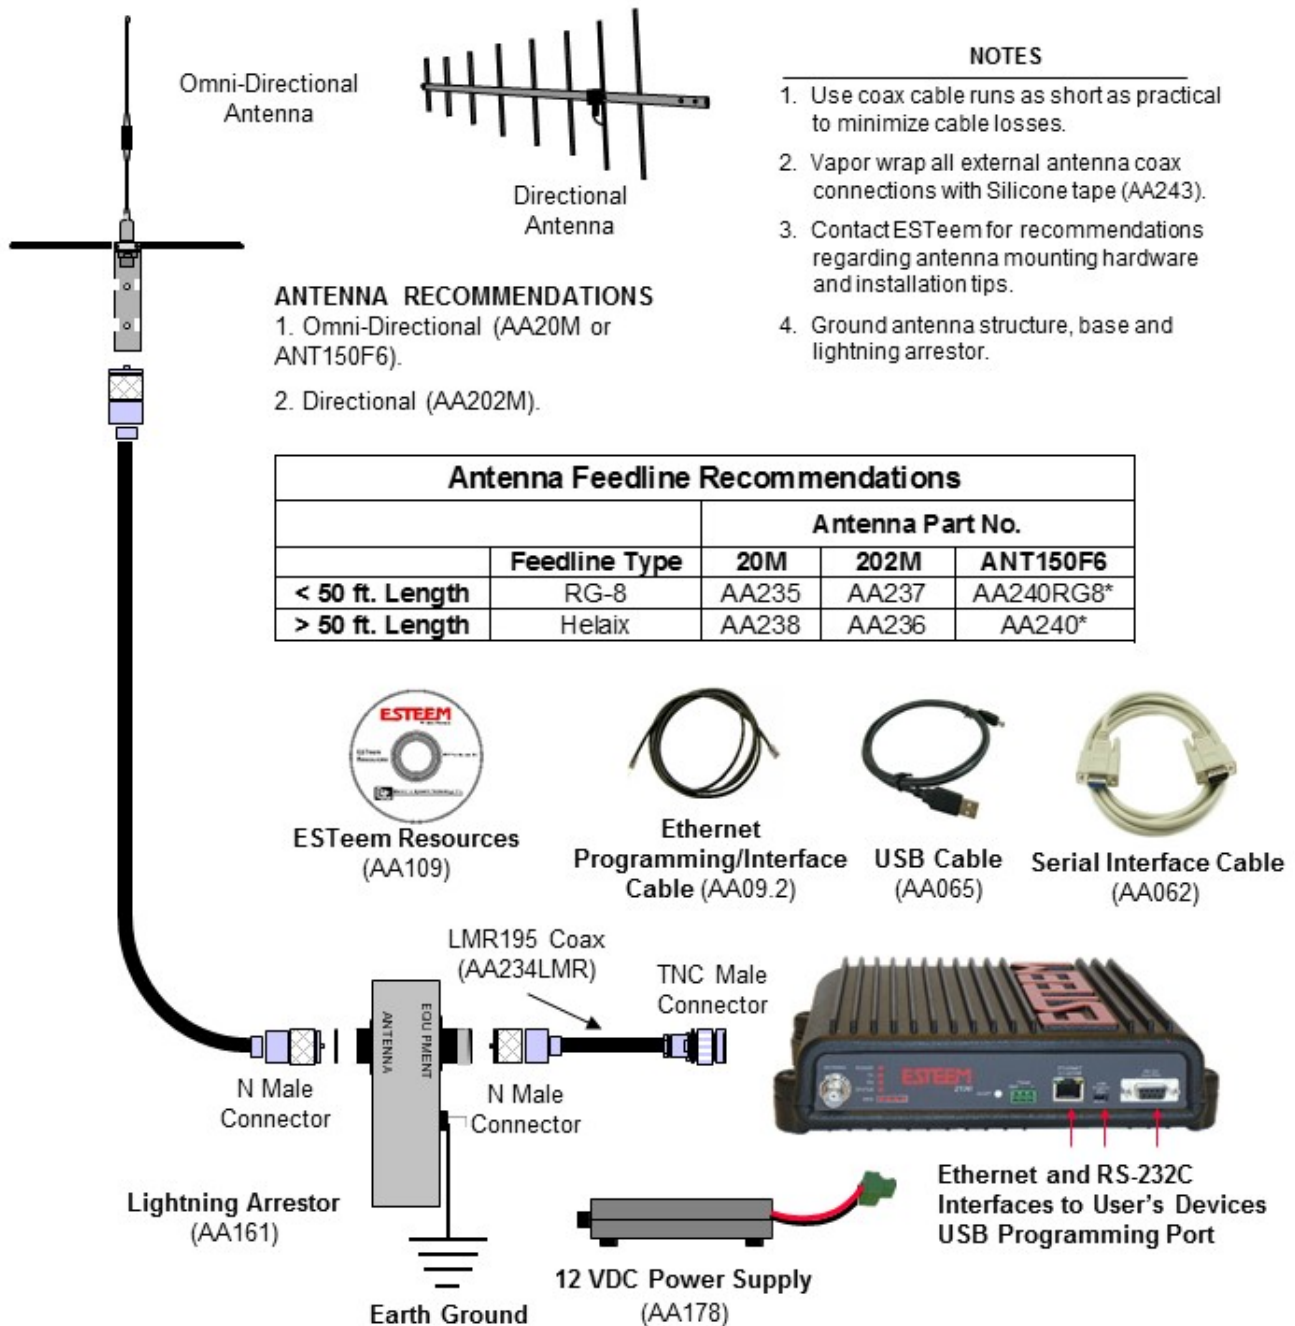

Figure 1: Coax Wrap Example
- d) **STRETCH** CoaxWrap while continuing to wrap object with “half-laps”, removing clear film as you go (Figure 1). For greater pressure resistance, use 2 or more tightly wrapped layers.